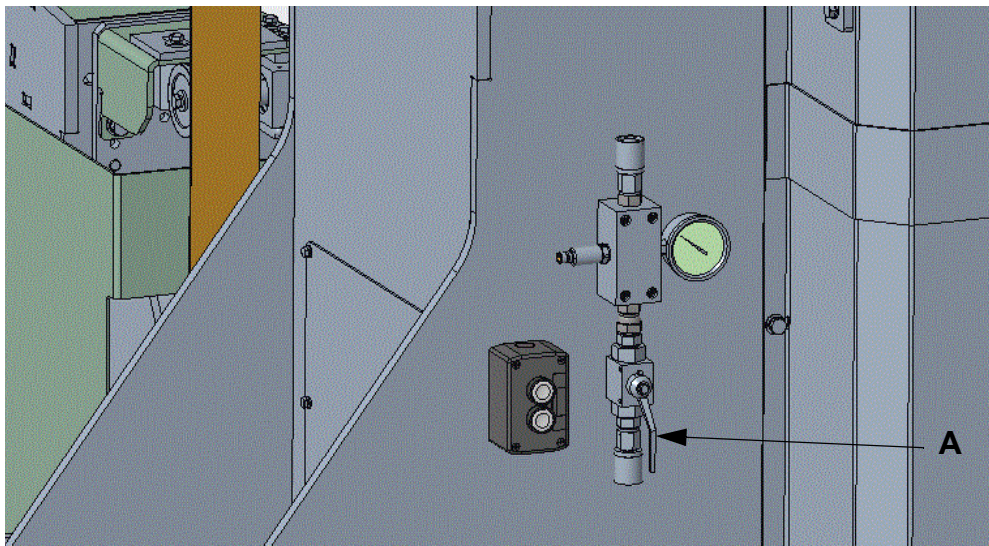

FIG. 5-10
See Figure 5-10 Turn the blade tension valve handle (A) to “0” position to release the blade tension. Open the blade cover. Lift the blade out of the blade housing.